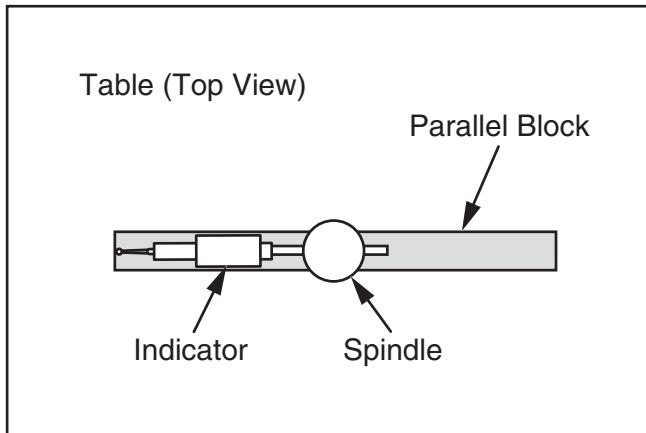

Figure 47. Parallel block and indicator positioned for the X-axis measurement.
- To measure spindle alignment along X-axis, place parallel block directly under spindle and indicator across length of table, as illustrated in **Figure 47**.